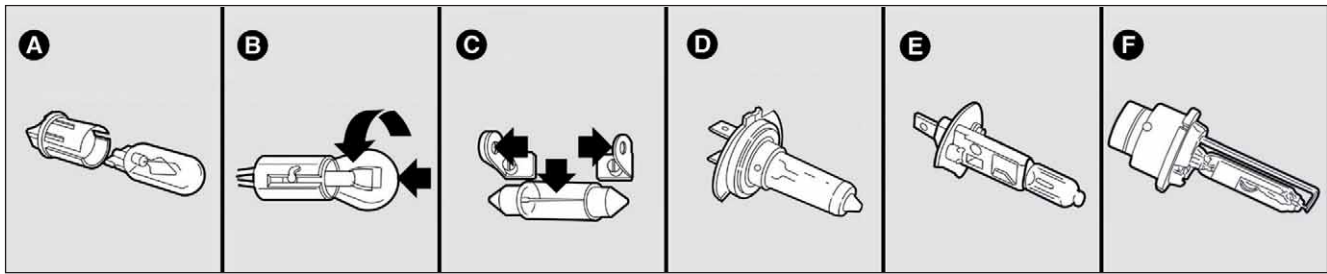

fig. 21
## TYPES OF BULBS fig. 21
**BULBS****FIGURE 21****TYPE****POWER**